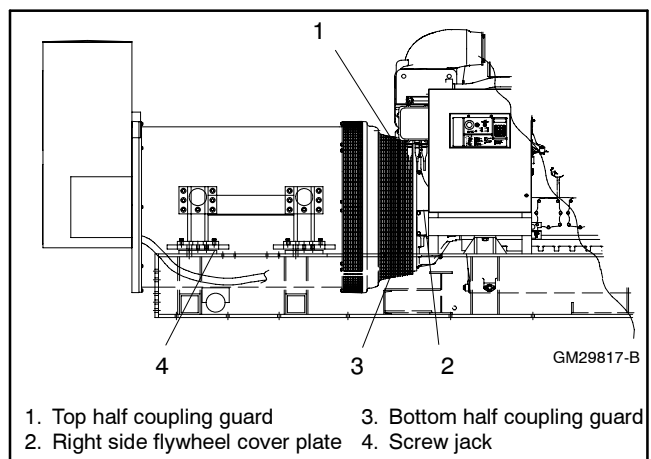

Figure 3-6 2000-2800 kW Assembly Drawing, Typical
- b. Remove both the top and bottom coupling guards. See Figure 3-6.
- c. Remove right side flywheel cover plate from the engine. See Figure 3-6.